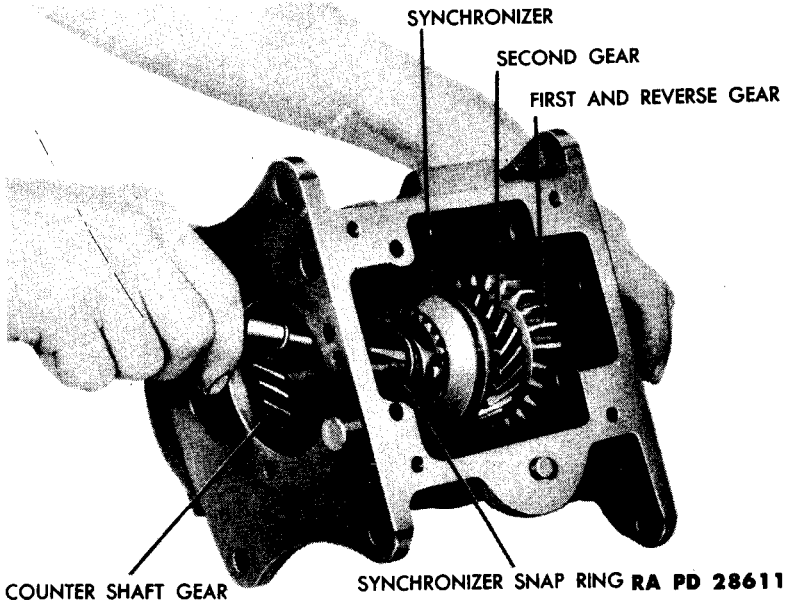

Figure 11 – Removing Synchronizer Hub Snap Ring
f. **Remove Mainshaft (fig. 11).** Remove the synchronizer hub snap ring. Slide the synchronizer assembly, second and first and reverse gear off the mainshaft. Remove the shaft.